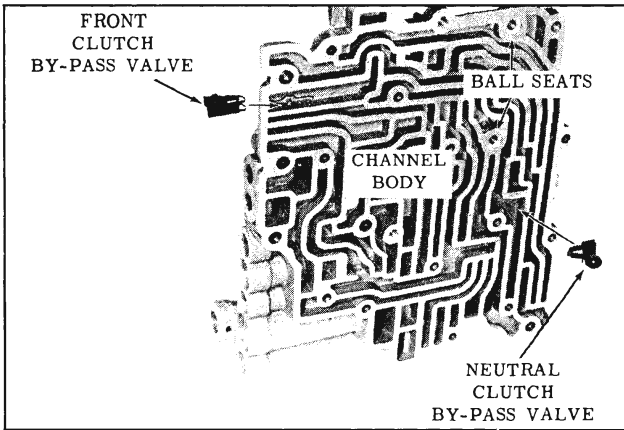

Fig. 3-89 Channel Body
2. Remove neutral clutch by-pass valve and the front clutch by-pass valve from channel body. (Fig. 3-89)
NOTE: Assemble loose parts into channel body after inspection. (Fig. 3-89)